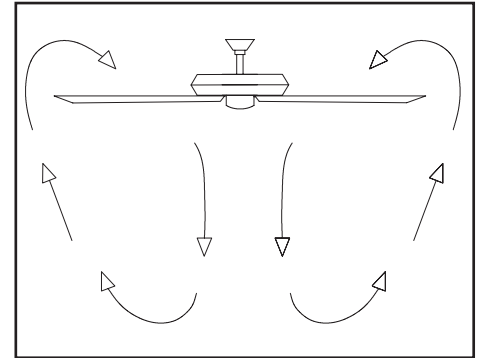

Figure 21
**Warm weather - (Forward)** A downward air flow creates a cooling effect as shown in Figure 21. This allows you to set your air conditioner on a higher setting without affecting your comfort.